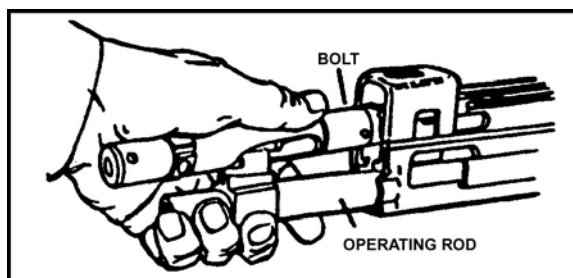

Figure 14. Operating rod and bolt.
- (3) Push on operating rod, compressing the firing pin spring.
- (4) Position the operating rod yoke between the firing pin spool.
- (5) Push forward on the rear of the bolt with the other hand, causing the bolt to rotate until the locking lugs are vertical and the cam roller is up.
- (6) Push the operating rod and bolt (ensure the cam roller faces up) into the receiver until the end of the operating rod is even with the rear of the receiver (Figure 14).